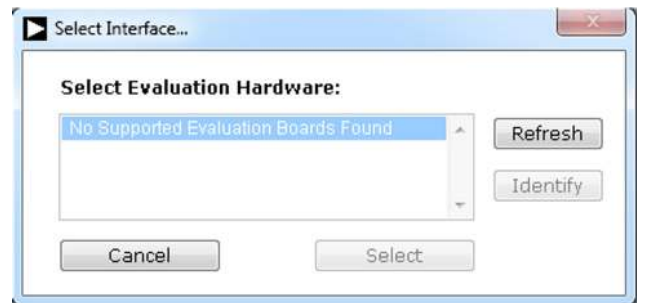

Figure 16. Connectivity Error Alert
2. If the **AD7768** evaluation system is not connected to the USB port via the **EVAL-SDP-CH1Z** when the software is launched, a connectivity error displays prompting the user to choose an evaluation board (see Figure 16). Connect the evaluation board to the USB port of the PC, wait a few seconds, click **Rescan**, and then follow the on-screen instructions.